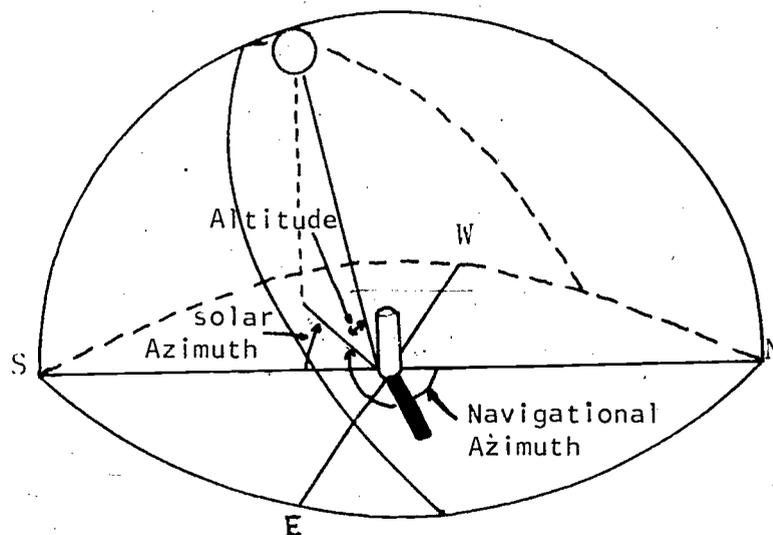

Figure 1-3
So you can now see why we want to measure how high the sun is in the sky and to keep track of its position. The effects of the apparent motion of the sun will appear in the results of other solar energy experiments. The sun's height in the sky, measured in degrees from the horizontal, is called the sun's altitude. The horizontal direction, measured in degrees from the true south line to a point on the surface directly beneath the sun, is called the solar azimuth. This definition differs from that used by surveyors, who consider azimuth as the horizontal angle in degrees clockwise from true north to the vertical projection of the line of sight. See Figure 1-3.
1. Every time you measure the length of the shadow for your altitude measurements, measure the angle that the shadow makes with the scribed north-south line. This shadow angle is used to determine the solar azimuth. You can see from Figure 1-3 that this angle is the vertical angle of the solar azimuth and hence is equal to it.